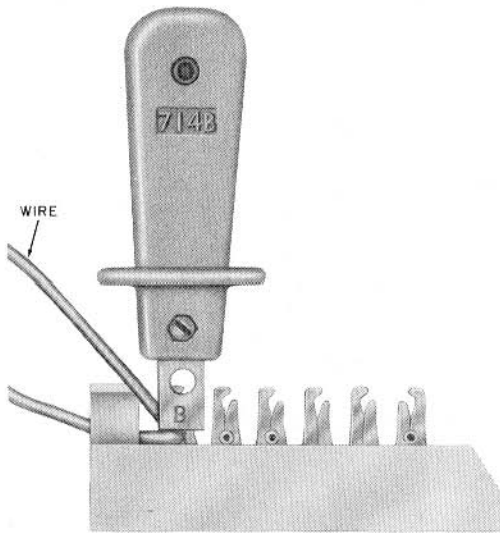

Fig. 6—Looping Termination Completed
- (5) Press tool toward block until wire is fully seated (Fig. 6).